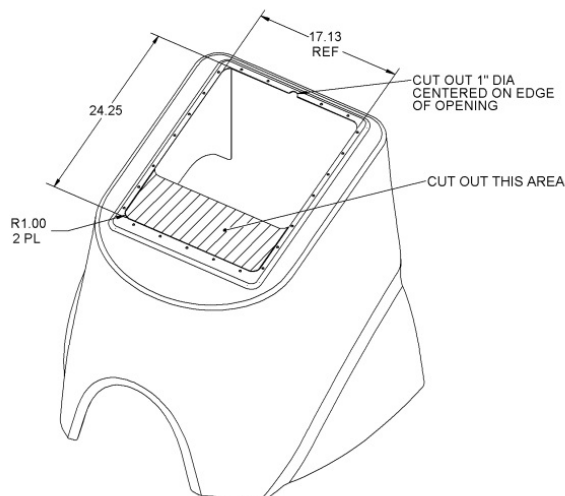

Figure 3: Engine Cowl Cutout
- 3.1.4.2 For newer model aircraft with all composite cowlings it will be necessary to cut the cowling as shown in Figure 3. The D4925-041 EAPS Mounting Plate Assy can be used as a template for the cutout. Repair the cut edge of the cowling per the Aircraft Maintenance Manual.